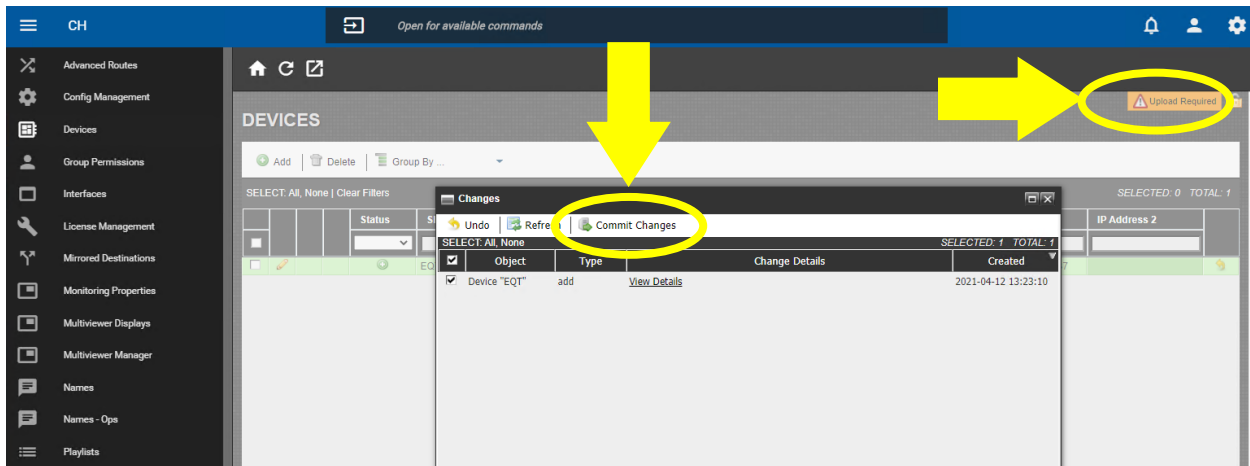
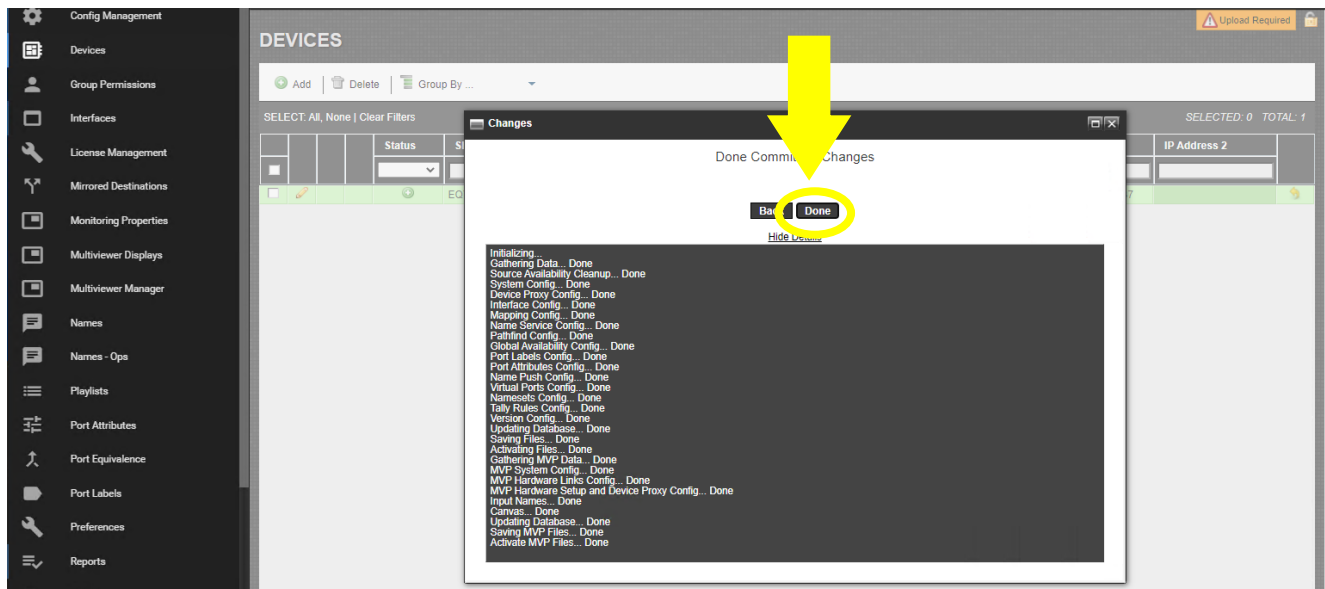

Figure 9-8: MAGNUM - Verification
Figure 9-9: MAGNUM - Complete Configuration
12. Click Commit Changes (as highlighted in Figure 9-8).
13. Once the server update is complete, click “Done” (see Figure 9-9).
NOTE: Since changes were done, an upload is required. Follow the steps described in Figure 9-8 and Figure 9-9
NOTE: Since changes were done, an upload is required. Follow the steps described in Figure 9-8 and Figure 9-9.